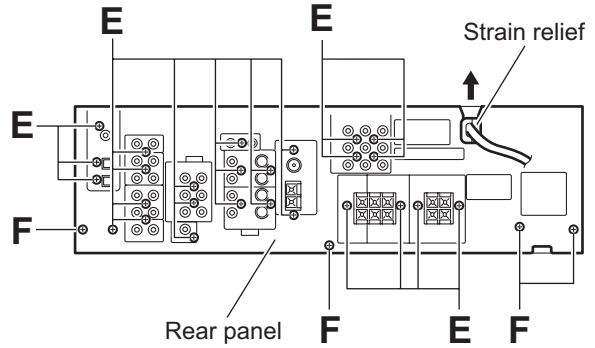

Fig.4
3.3 Removing the rear panel (See Fig.4)